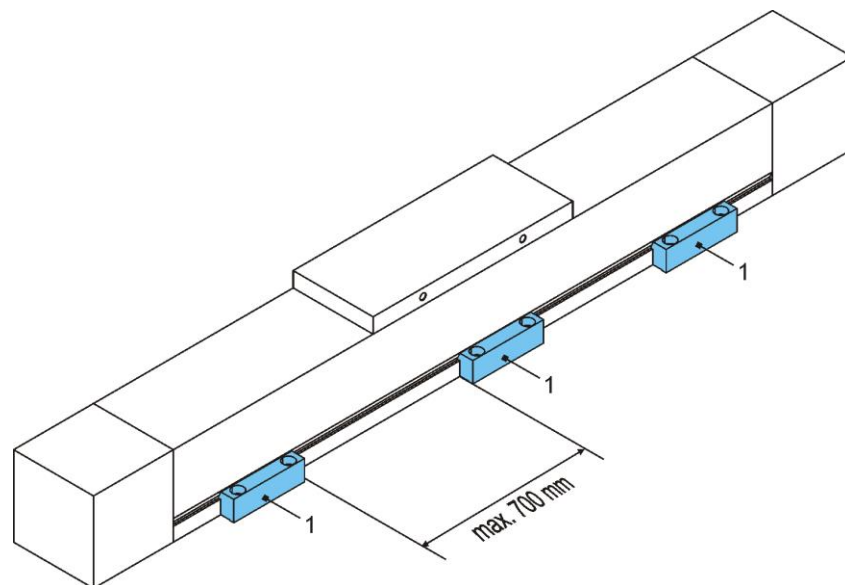

Figure 2: Mounting brackets (1)
1. Loosely fit the mounting brackets (1) into position (Figure 2).
3. Screw the mounting brackets (1) into place (for tightening torques refer to Section 3).